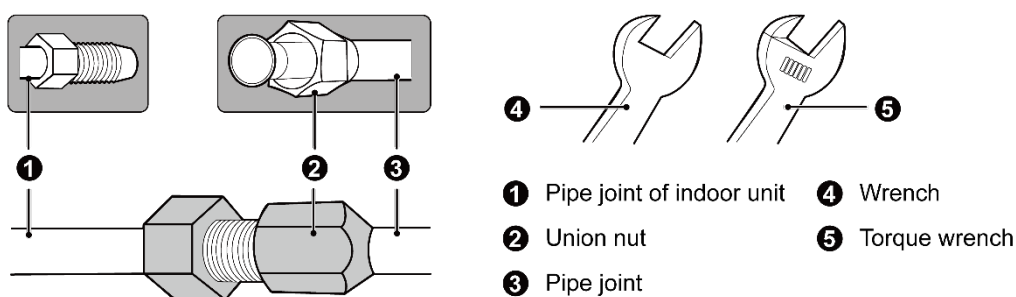

Fig.4.2
- (1) Aim the flaring port of copper pipe at the center of screwed joint and then tighten the flaring nut with hand as shown in Fig.4.2.
(2) Tighten the flaring nut with torque wrench.